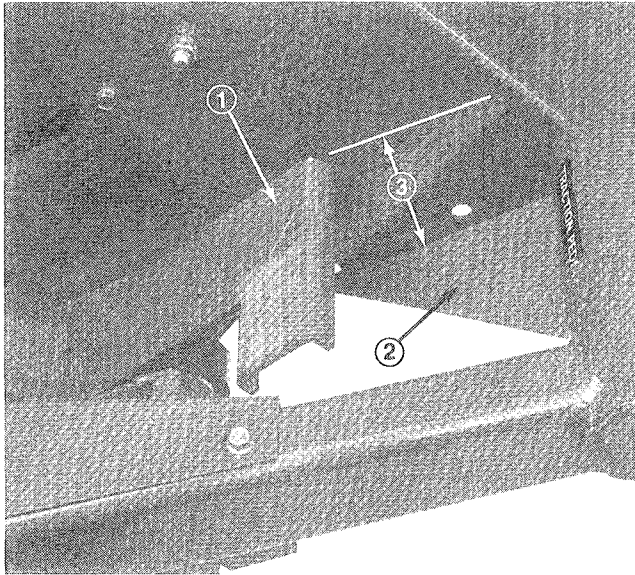
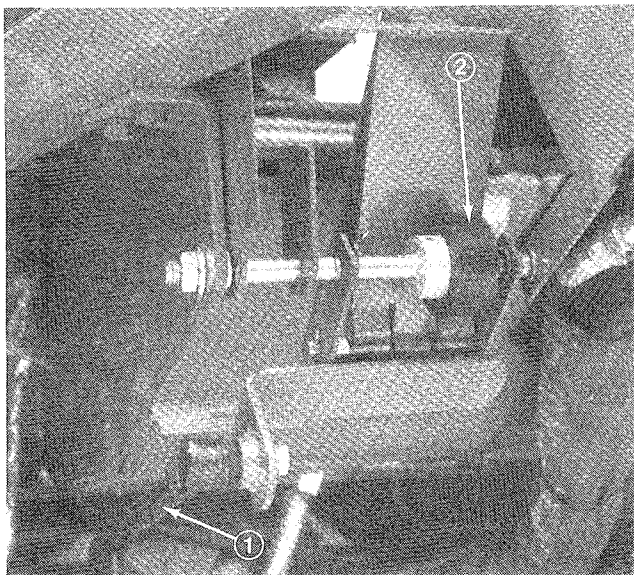

Figure 50
Figure 51
2. Press down on front of traction pedal and check travel. There should be approximately 3.50" clearance between end of pedal and floor plate when pedal in fully depressed (Fig. 50). Adjust pump control rod (Fig. 51) to attain dimension.
1. Loosen nut securing traction pedal shaft on right side of pedal (Fig. 51).